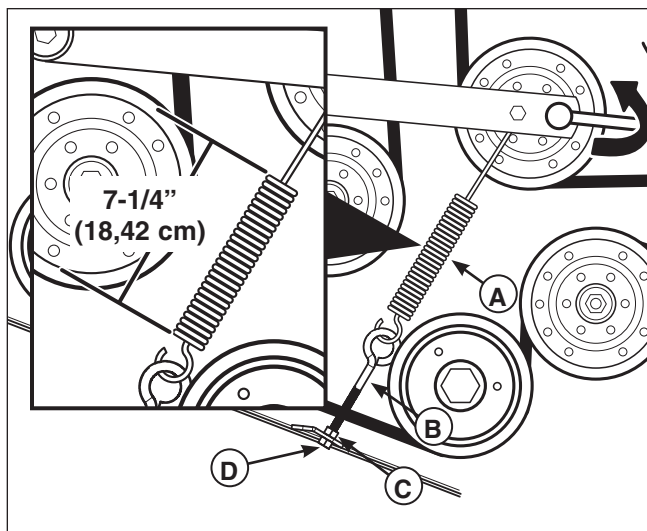

Figure 64. Mower Belt Idler Spring Length
3. Measure the coil length of the mower belt tensioner spring (A, Figure 64). The measurement should equal 7-1/4" (18,42 cm). If the measurement does not equal 7-1/4" (18,42 cm) adjust the anchor eyebolt.